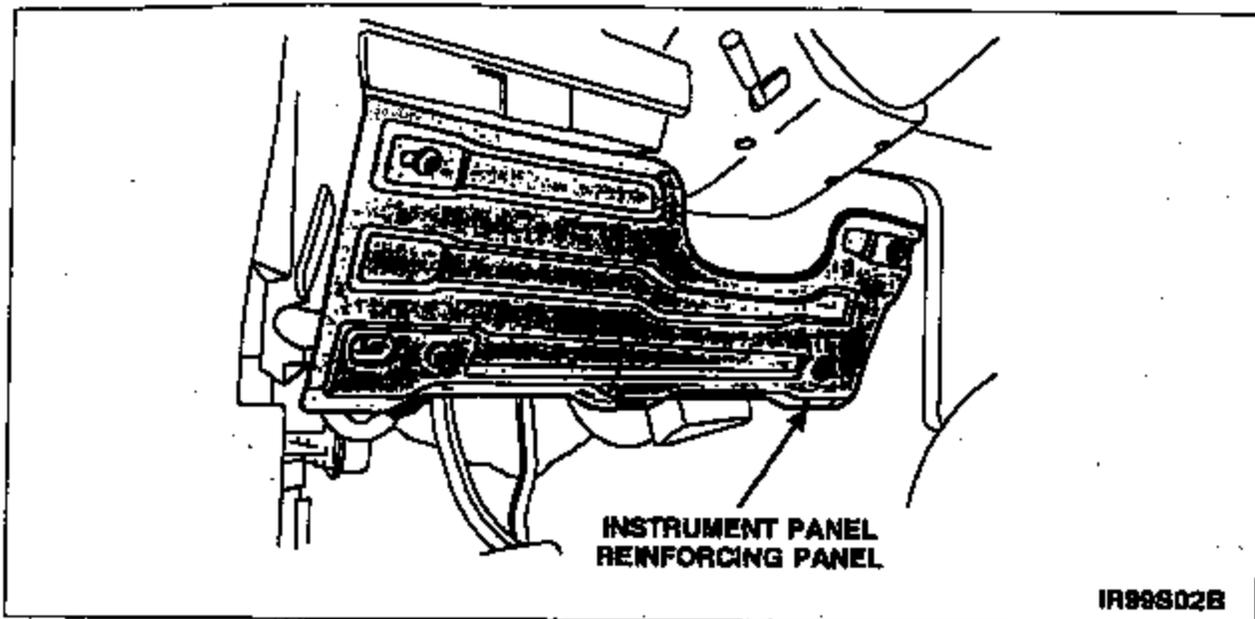

FIGURE 2
4. Remove the Instrument panel reinforcing panel. See Figure 2.